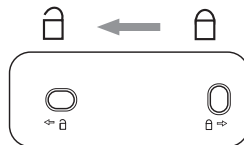

Fig. 1
- ◆ Remove the wall bracket **10** from the rear side of the transmitter by sliding it in the direction of the open lock symbol  (see fig. 1).